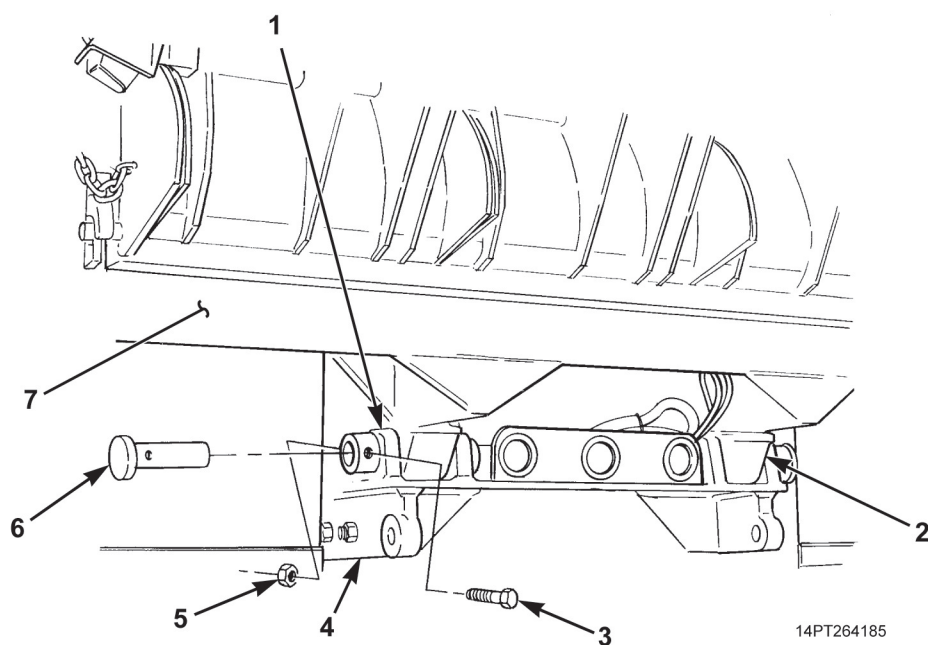

Figure 6. Hinge Pin Installation.
4. Lift dump body (Figure 6, Item 7) and position over vehicle chassis (Figure 6, Item 4). Lower body until rear hinge (Figure 6, Item 1) and hinge pads (Figure 6, Item 2) are aligned and hydraulic cylinder is properly positioned in recess at front of dump body.
5. Install driver's side and passenger's side hinge pins (Figure 6, Item 6) in rear hinge (Figure 6, Item 1).
6. Install two screws (Figure 6, Item 3) and new locknuts (Figure 6, Item 5) in rear hinge (Figure 6, Item 1) and hinge pins (Figure 6, Item 6).
7. Lower dump body (Figure 6, Item 7) onto vehicle chassis (Figure 6, Item 4). Remove lifting chains from rear of dump body.